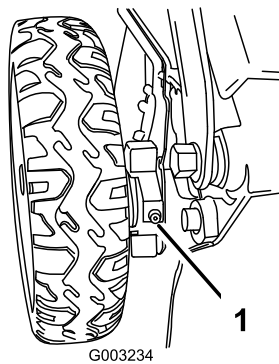

Figure 44
1. Wipe the grease fittings just inside the rear wheels with a clean rag (Figure 44).